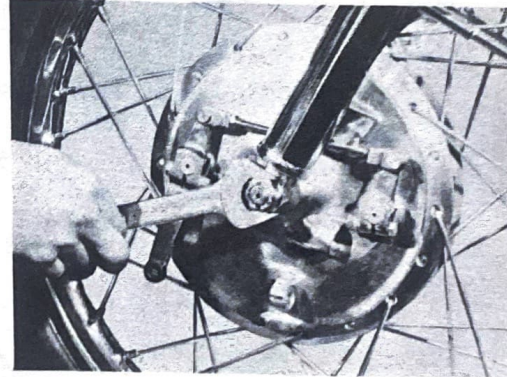

Fig. 5-1-8
- 4) Loosen the front wheel shaft nut. (Fig. 5-1-8)